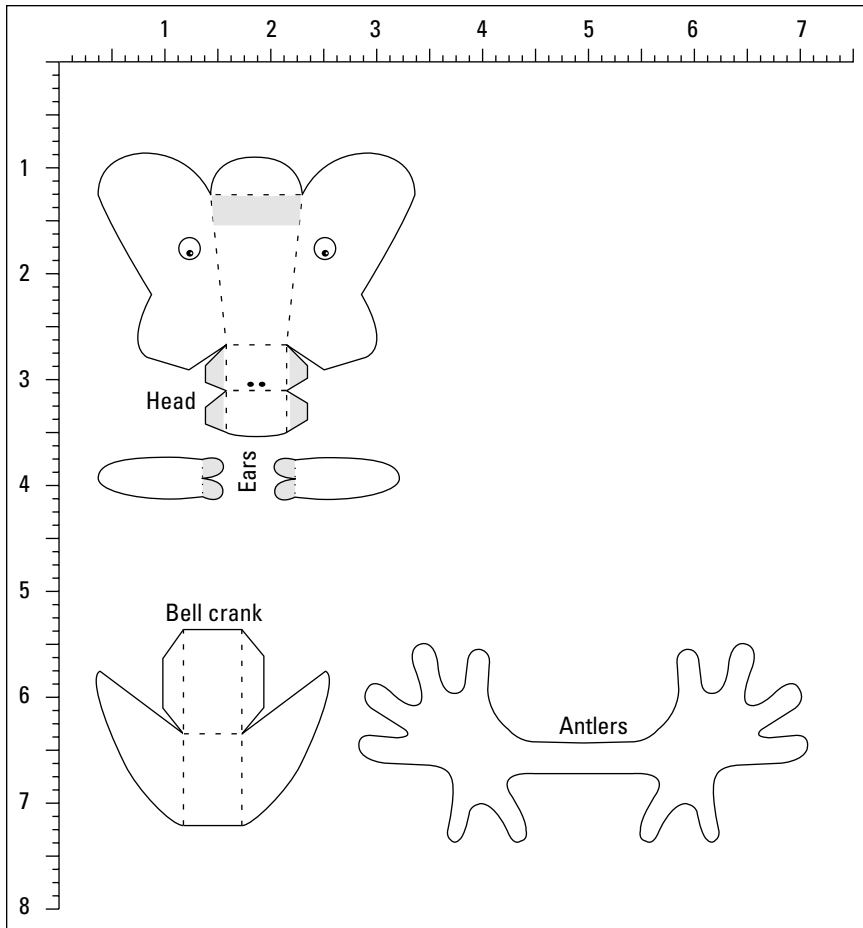

Figure 11-6:
1. Copy the template parts in Figure 11-6 onto a sheet of card.